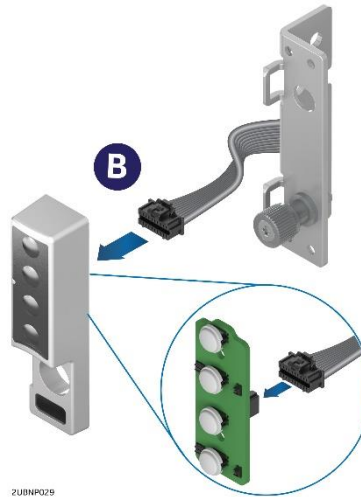

Figure 61. Connecting the front panel cable
2. Connect the cable to the front control panel board (B) as pictured in Figure 61.